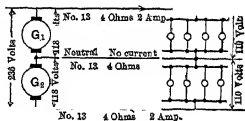
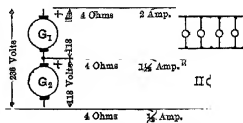
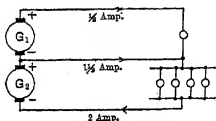
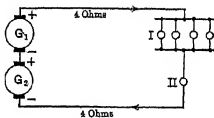

FIG. 103. Three-wire system; balanced. Neutral carries no current.
FIG. 104. Three-wire system; unbalanced. Neutral carries some current.
FIG. 107. Three-wire system; unbalanced. Neutral carries some current.
FIG. 108. Effect of broken neutral in three-wire system of Fig. 104.
The generator also has to have a special device to which this third wire is attached. It is much simpler, however, to consider the generator as divided into two 110-volt generators in series as in Fig. 103, with the neutral coming to the junction of the two.
**49. Balanced and Unbalanced Three-Wire System.** When there are the same number of lamps burning on each side of the neutral, as in Fig. 103, the neutral carries no current, and the system is said to be **balanced**. It is only when the system is **unbalanced** that the neutral is of use and carries current, as in Fig. 104. The system may be said
to be unbalanced, then, when the appliances on one side of the neutral are carrying more current than those on the other side, thus compelling the neutral to carry the surplus. Thus, if four  $\frac{1}{2}$ -ampere lamps were turned on, as in Fig. 104, on the (+) side of the neutral, and only one on the other side, the neutral would have to carry  $1\frac{1}{2}$  amperes back to the generator  $G_1$  which is supplying the greater part of the power. If, however, the four  $\frac{1}{2}$ -ampere lamps had been turned on, as in Fig. 107, on the (-) side of the neutral, and only one on the (+) side,
Of course on a large system any slight deviation from a balance makes no noticeable difference, but it is instructive to see what happens to the voltage distribution in a system unbalanced as much as that of Fig. 104.
The lamps of both groups were made to run on 110 volts as in Fig. 103, and would have their life shortened by 122 volts. We can say, then, that the result of extreme unbalancing is so greatly to disturb the voltage distribution, that
**Prob. 100-5.** If there were 6 lamps in Group I and 2 lamps in Group II, Fig. 104, each taking  $\frac{1}{2}$  ampere, other things remaining unchanged, what would the voltage across each group become?
**Prob. 101-5.** What is the voltage distribution in Fig. 107, if the wires have a resistance of  $2\frac{1}{2}$  ohms each? The generators maintain 115 volts each and each lamp takes 0.50 ampere.
Consider the neutral in Fig. 104 broken at (x). We should then have a series circuit as in Fig. 108.
**Prob. 104-5.** Find the voltage distribution if the neutral in Fig. 103 broke.